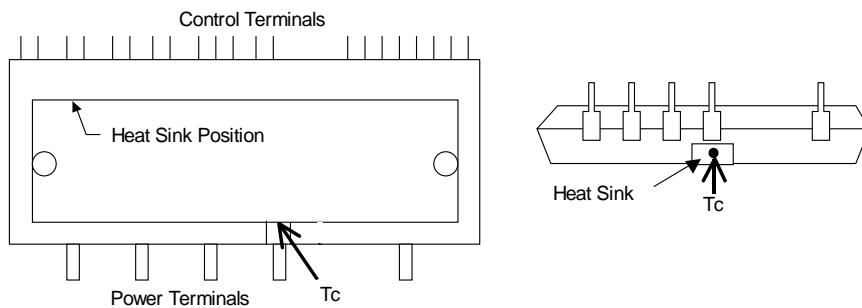

Fig. 10 Case temperature measurement point
Please measure the case temperature at the position as shown in Fig. 10.
- 4 . A large charge current of the electrolytic condenser will flow on the DIP-PFC when applying AC supply, which might cause destruction. Therefore, An Inrush current prevention circuit shown in Fig. 10 is necessary. Open the relay when condenser Co is initially charged, and close it after the charge is over.